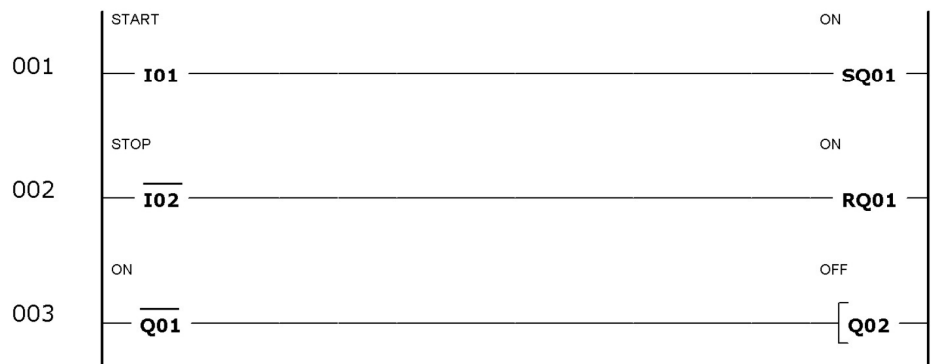

Figure 1-15. Latching circuit using the set and reset instructions ladder program.
Another way of implementing this latching circuit is with the help of the set and reset instructions, as represented in Figure 1-15. When input I1 (START) is energized, output Q1 (green pilot light) is set to logic 1. To reset the Q1 coil, the STOP push button connected to I2 must be pressed. The I2 break contact is used because the STOP push button is a NC contact.
- ☐ 17. Delete the existing program, then enter and save the program shown in Figure 1-15.